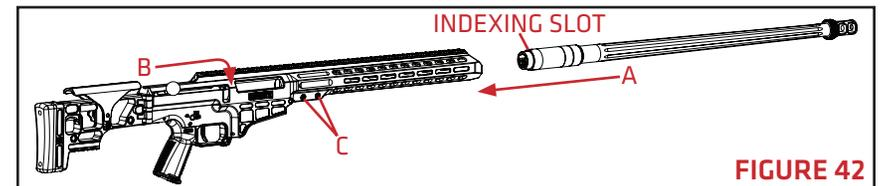

FIGURE 42
1. Insert the barrel into the upper receiver with indexing slot oriented in the 12 o'clock position ensuring the indexing slot engages the indexing pin in the upper receiver as the barrel is fully seated (**FIGURE 42-A**).
2. Slide the bolt handle forward until the bolt enters the barrel extension and lower the bolt handle to lock the bolt (**FIGURE 42-B**).
3. Torque the two barrel screws to 140 in/lbs. Tighten the rear barrel screw before the front one. Double check the torque is set at 140 in/lbs prior to shooting (**FIGURE 42-C**).